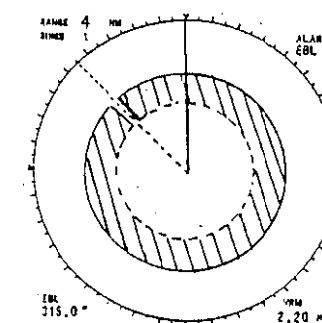

Fig.1-16
8. Press the SET/RESET touchpad, and the bearing in step 7 is set. A small 2-3 degree blank space is created in the doughnut ring at the area around 315°, however it is "repainted" once the other side of the bearing sector is set. At this time the EBL1 indication will change to EBL2, indicating you should set the other side of the bearing sector. See Fig.1-16.